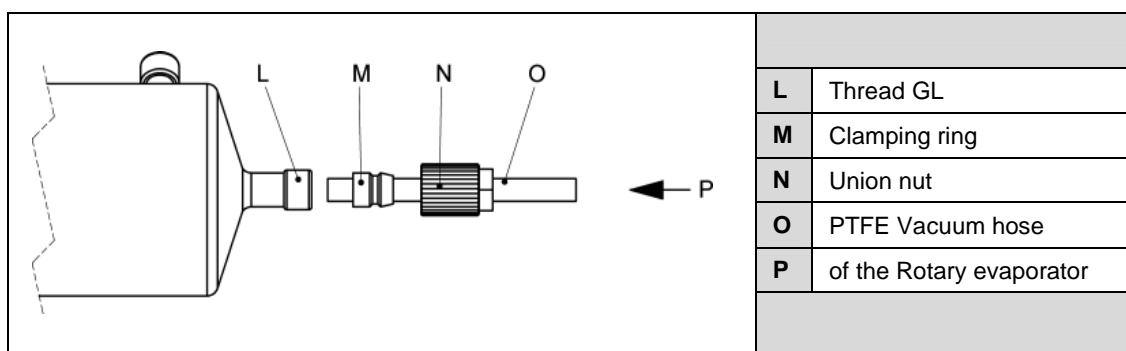

Fig. 3 Instruction for assembly of the screw connection for the suction connection
- Insert the vacuum connector of the vacuum sensor into a given GL14 port and secure with the screw cap (*see figure 3*).